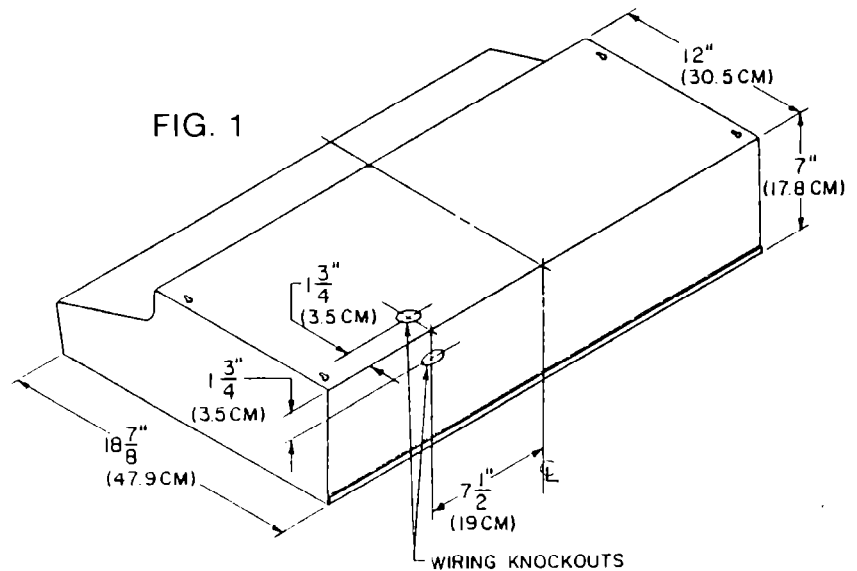

FIG. 1
1. Mark locations for electrical wiring from dimensions given in Figure 1.